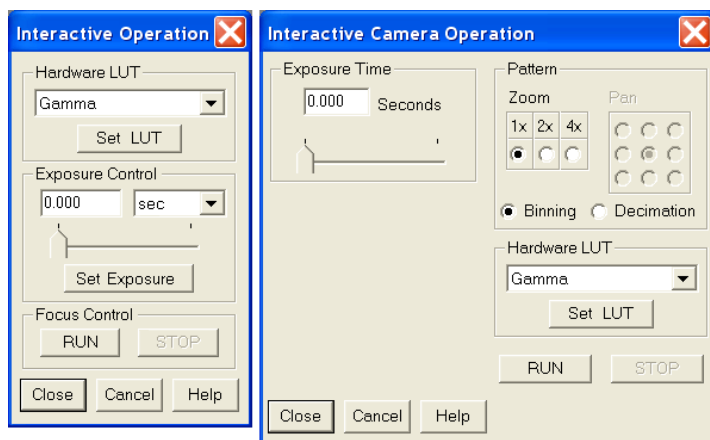

Figure 47. PentaMAX Interactive Operation dialog
2. Select **Video Focus** from the **Acquisition** menu. The **Interactive Operation** dialog that will be displayed depends on the PentaMAX version. Version 5 and higher will display the righthand dialog shown in Figure 47. Earlier versions display the lefthand dialog.